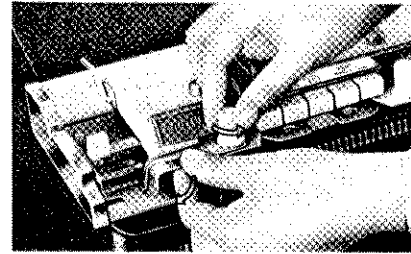

Fig. 25
7. Take out the carriage lock from the accessory box and lock the carriage on the left end of the needle bed. (See Fig. 25)